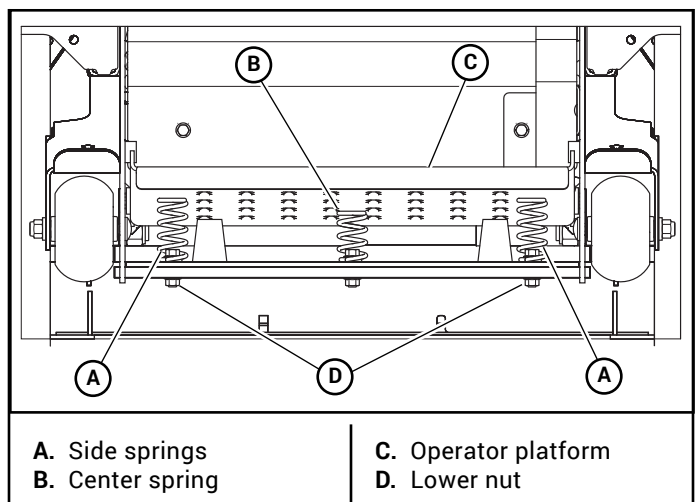

Figure 4-23
1. Loosen the lower nut enough to allow the spring to move. Figure 4-23
2. Tighten the lower nut after the spring is located in the desired position. Figure 4-23